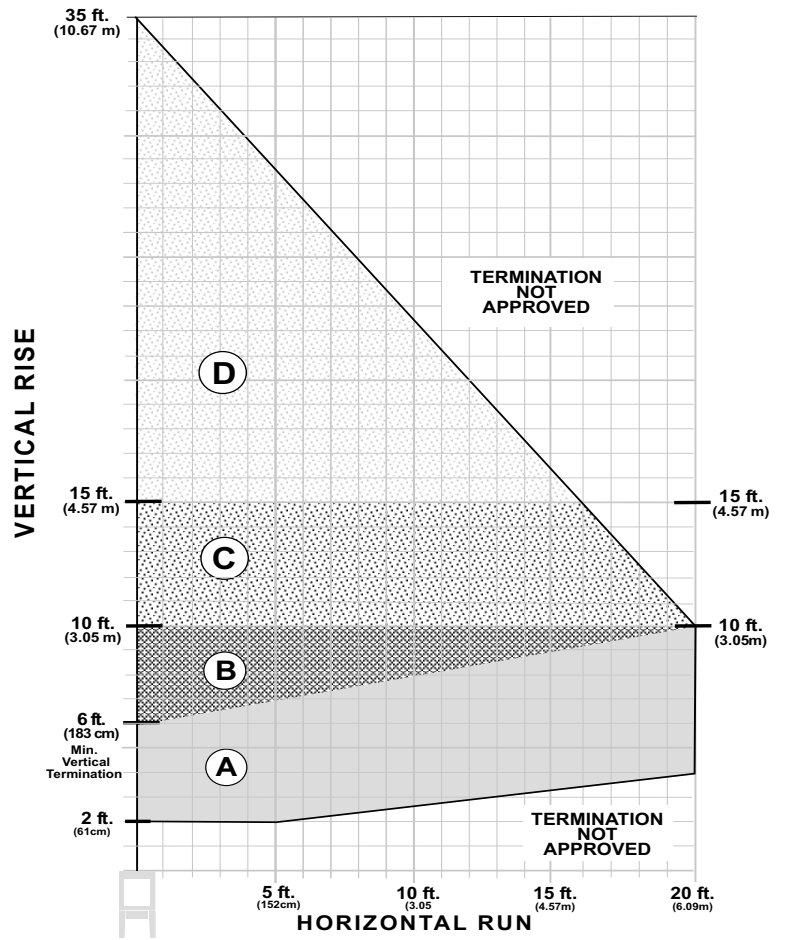
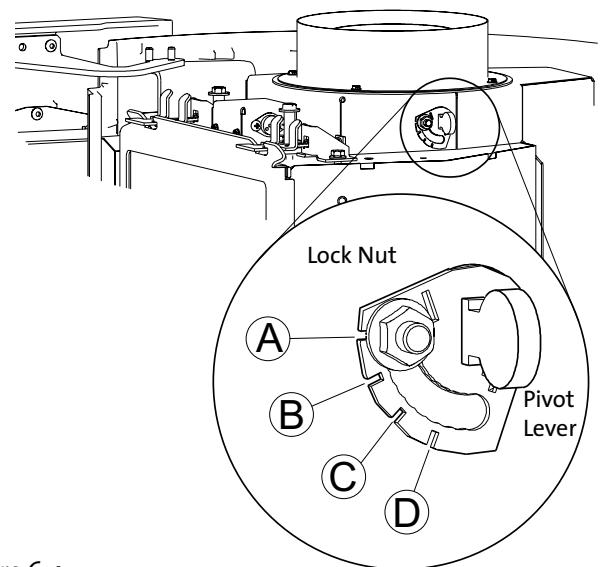

Figure 6.2.
Figure 6.4.
The Exhaust Restrictor plate is located within the firebox exhaust outlet. It is adjusted by rotating the dial on the right side of the outlet within a range beginning at the factory-set, fully open position (no restriction) to a fully restricted position. See Figs. 6.2 and 6.3. The Minus (-) and Plus (+) signs on the dial relate to degrees of restriction, from zero to approximately 70%. The four, lettered positions correlate to the termination zones (A,B,C,D) diagrammed in figure 6.4. Use the diagram to determine the degree of restriction and shutter setting that correlates to your vent configuration.
Determine the dial notch position appropriate to your vent configuration as designated in Fig 6.2. Pivot the dial to align the lock nut with that notch.
- The termination should fall within the shaded areas of the grids depicted in the Vent Matrix, fig. 6.2, page 10.
- Any horizontal termination must fall within the shaded portion of the vent window matrix shown in fig. 6.2.